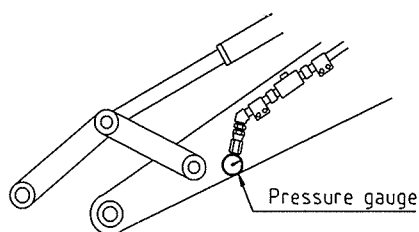

Fig. 4
- (1) Set the Carrier to Breaker mode or suitable flow mode, if it has the option, then run carrier until hydraulic oil reaches operating temperature. If your carrier does not have suitable mode for the hydraulic breaker, ask your carrier's dealer to configure the breaker mode.
- (2) Install the pressure gauge at the front end of the high pressure line pipe on the arm as shown in Fig. 4. Accelerate the engine speed to maximum. Step on the foot pedal, then measure the hydraulic pressure and set the circuit pressure at the specified value by adjusting the secondary relief valve added to the hydraulic breaker pressure line.